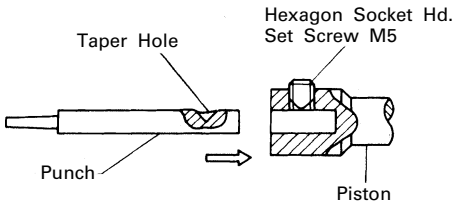

Fig. 10
- (c) Insert the new punch while aligning the taper hole of the punch and the direction of the M5 hexagon socket set screw, then securely tighten the hexagon socket set screw (see **Fig. 10**).